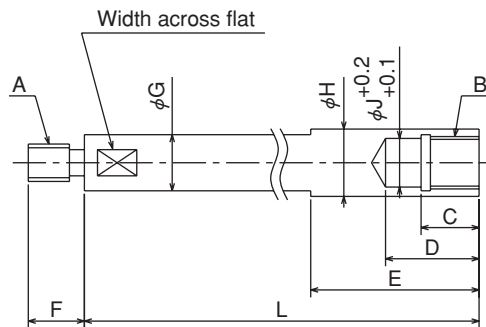

Fig. 12
- Keep the dimension H in Fig. 12 for the draw bar and a material with the tensile strength 380MPa (38kgf/mm²) or more must be used.